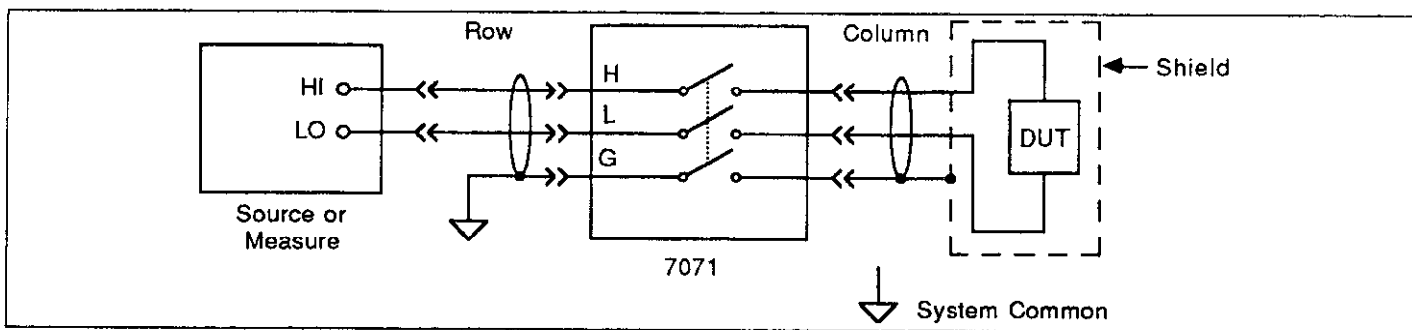

Figure 2-4. Single-Ended Switching Example (Guard Used as Shield)
In the single-ended switching configuration, the source or measure instrument is connected to the DUT through a single pathway as shown in Figure 2-4. Note that in the illustration that the matrix card guard (G) is used as a shield. The matrix card guard is used as the shield because its PC board trace physically surrounds the high (H) and low (L) traces.